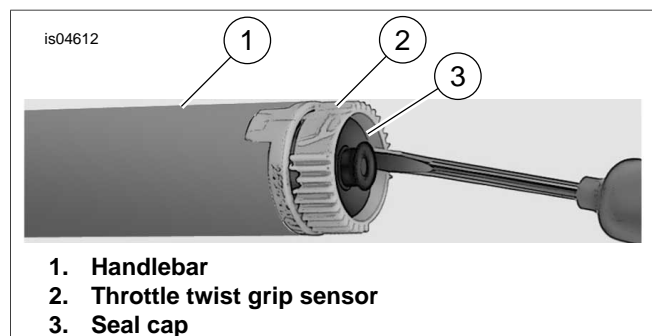

Figure 4. Remove Seal Cap
- See Figure 4. Insert a small screwdriver or other flat-blade tool into the flat area on one side of the seal cap.